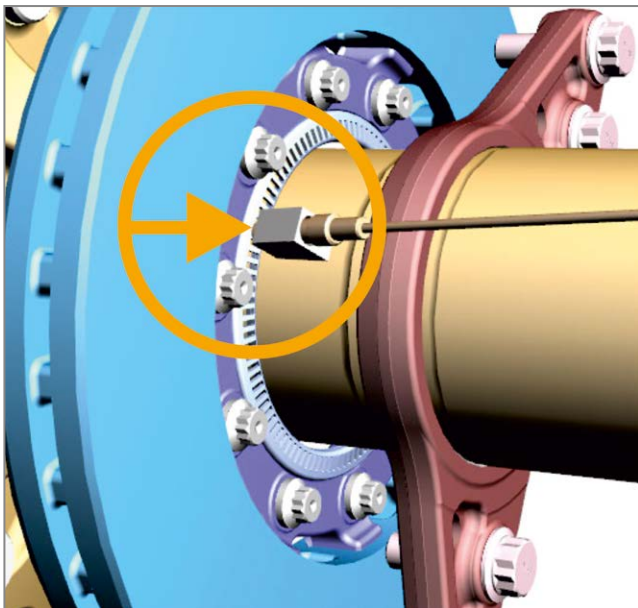

Fig. 4 - Installation and removal of the ABS sensor
1. Pull the ABS sensor ► *Fig. 4* out of the sensor bracket with clamping sleeve.